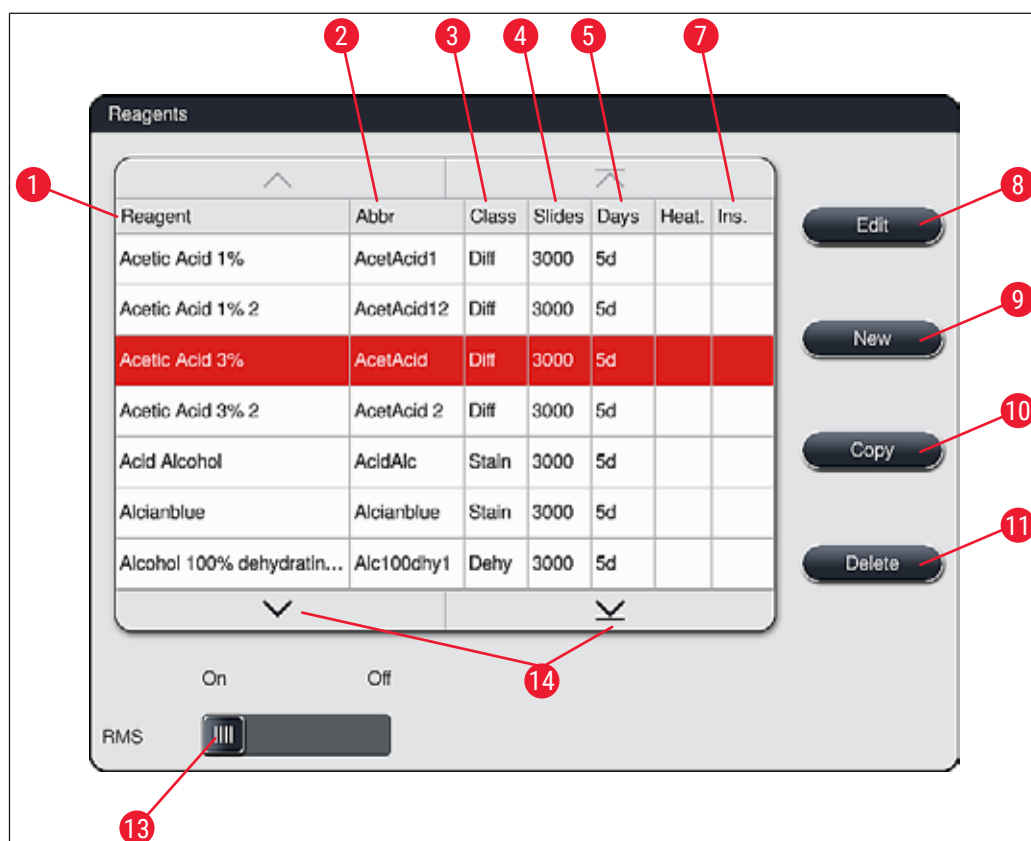

Fig. 35
- Select the reagent to be copied in the reagent list (→ "Fig. 35") by tapping it and **press the Copy** (→ "Fig. 35-10") button.
- Select the reagent to be changed in the reagent list (→ "Fig. 35") by tapping it and press the **Edit** (→ "Fig. 35-8") button.